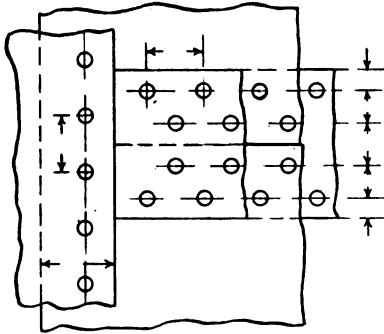
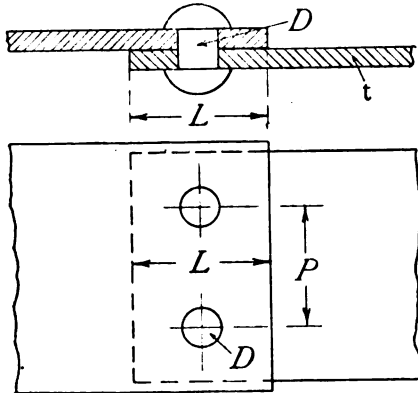
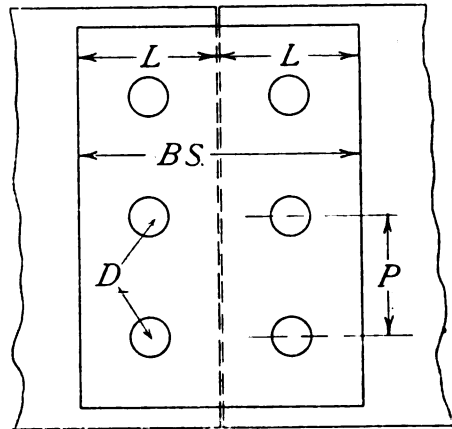

FIG. 1.—THE REQUIRED PROPORTIONATE DIMENSIONS.
FIG. 2.—SINGLE RIVETED LAP JOINT.
FIG. 3.—SINGLE RIVETED BUTT JOINT.
For single riveted lap joints (see Fig. 1) make the lap of the plates 3½ times the diameter of rivets (or seven times the plate thickness). For single riveted butt joints the same rules apply. The width of the butt strip (BS) should be twice the lap (L), see Fig. 2. Where a single butt strip is employed, make butt strip 1½ times thickness of plate. Where two strips are used they should be each ¾ of plate thickness. For double riveted lap joints the total lap should be five times the diameter of the rivet, and the distance apart of the two rows of rivets (A) should be 1½ times D. The greatest pitch should be 3½ times D, as shown in Fig. 3. Butt joints will obey the same rules.